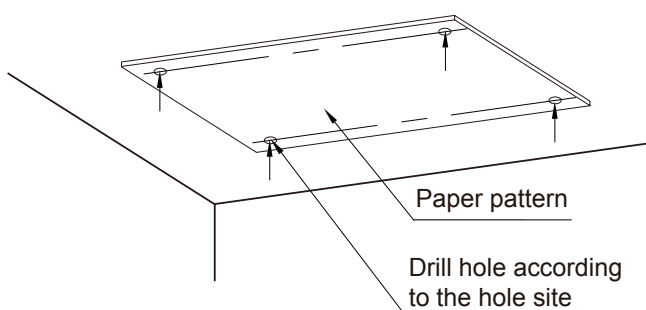
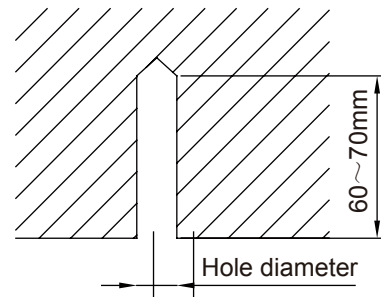

Fig 4.1.2
Fig 4.1.3
- 1) Stick the reference cardboard on the installation position; drill 4 holes according to the hole site on the cardboard as shown in fig 4.1.2; diameter of drilling hole is according to the diameter of expansion bolt and the depth is 60-70mm, as shown in fig 4.1.3.